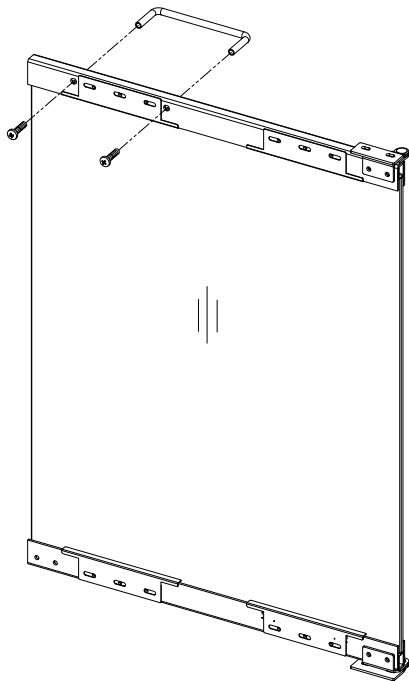

Figure 1
1. **Mount door handles** to the glass doors; both left and right hand door assemblies- (left shown) using the screws provided with the handles (see Figure 1).